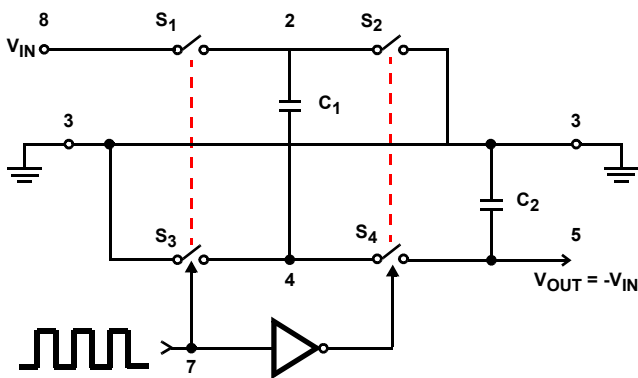
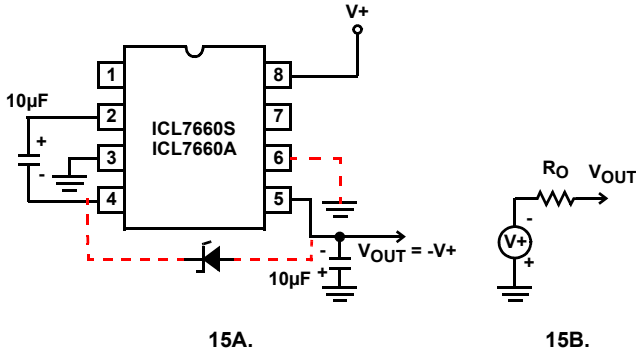

FIGURE 14. IDEALIZED NEGATIVE VOLTAGE CONVERTER
FIGURE 15. SIMPLE NEGATIVE CONVERTER AND ITS OUTPUT EQUIVALENT
The ICL7660S and ICL7660A contain all the necessary circuitry to complete a negative voltage converter, with the exception of two external capacitors, which may be inexpensive 10 μ F polarized electrolytic types. The mode of operation of the device may best be understood by considering Figure 14, which shows an idealized negative voltage converter. Capacitor C_1 is charged to a voltage, V_+ , for the half cycle, when switches S_1 and S_3 are closed. (Note: Switches S_2 and S_4 are open during this half cycle). During the second half cycle of operation, switches S_2 and S_4 are closed, with S_1 and S_3 open, thereby shifting capacitor C_1 to C_2 such that the voltage on C_2 is exactly V_+ , assuming ideal switches and no load on C_2 . The ICL7660S and ICL7660A approach this ideal situation more closely than existing non-mechanical circuits.
In the ICL7660S and ICL7660A, the four switches of Figure 14 are MOS power switches; S_1 is a P-Channel device; and S_2 , S_3 and S_4 are N-Channel devices. The main difficulty with this approach is that in integrating the switches, the substrates of S_3 and S_4 must always remain reverse biased with respect to their sources, but not so much as to degrade their "ON" resistances. In addition, at circuit start-up, and under output short circuit conditions ($V_{OUT} = V_+$), the output voltage must be sensed and the substrate bias adjusted accordingly. Failure to accomplish this would result in high power losses and probable device latch-up.
where V_1 and V_2 are the voltages on C_1 during the pump and transfer cycles. If the impedances of C_1 and C_2 are relatively high at the pump frequency (see Figure 14) compared to the value of R_L , there will be a substantial difference in the voltages, V_1 and V_2 . Therefore it is not only desirable to make C_2 as large as possible to eliminate output voltage ripple, but also to employ a correspondingly large value for C_1 in order to achieve maximum efficiency of operation.
The majority of applications will undoubtedly utilize the ICL7660S and ICL7660A for generation of negative supply voltages. Figure 15 shows typical connections to provide a negative supply where a positive supply of +1.5V to +12V is available. Keep in mind that pin 6 (LV) is tied to the supply negative (GND) for supply voltage below 3.5V.
The output characteristics of the circuit in Figure 15 can be approximated by an ideal voltage source in series with a resistance as shown in Figure 15B. The voltage source has a value of $-(V_+)$. The output impedance (R_O) is a function of the ON resistance of the internal MOS switches (shown in Figure 14), the switching frequency, the value of C_1 and C_2 , and the ESR (equivalent series resistance) of C_1 and C_2 . A good first order approximation for R_O is shown in Equation 2:
Figure 19 combines the functions shown in Figure 15 and Figure 18 to provide negative voltage conversion and positive voltage doubling simultaneously. This approach would be suitable, for example, for generating +9V and -5V from an existing +5V supply. In this instance, capacitors C_1 and C_3 perform the pump and reservoir functions, respectively, for negative voltage generation, while capacitors C_2 and C_4 are pump and reservoir, respectively, for the doubled positive voltage. There is a penalty in this configuration which combines both functions, however, in that the source impedances of the generated supplies will be somewhat higher, due to the finite impedance of the common charge pump driver at pin 2 of the device.